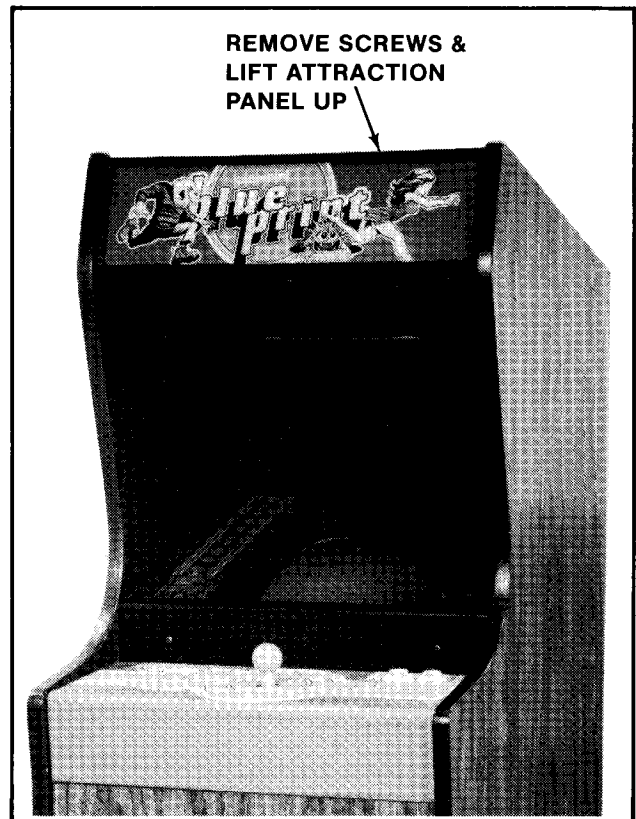

Figure 4-17 Opening the Attraction Panel — Mini
**2. MINI MODEL.** See Figure 4-17.